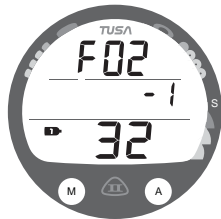

Fig. 71 - GAS 1 PREVIEW
**Gas 1 Switch Preview**, information includes (Fig. 71) -